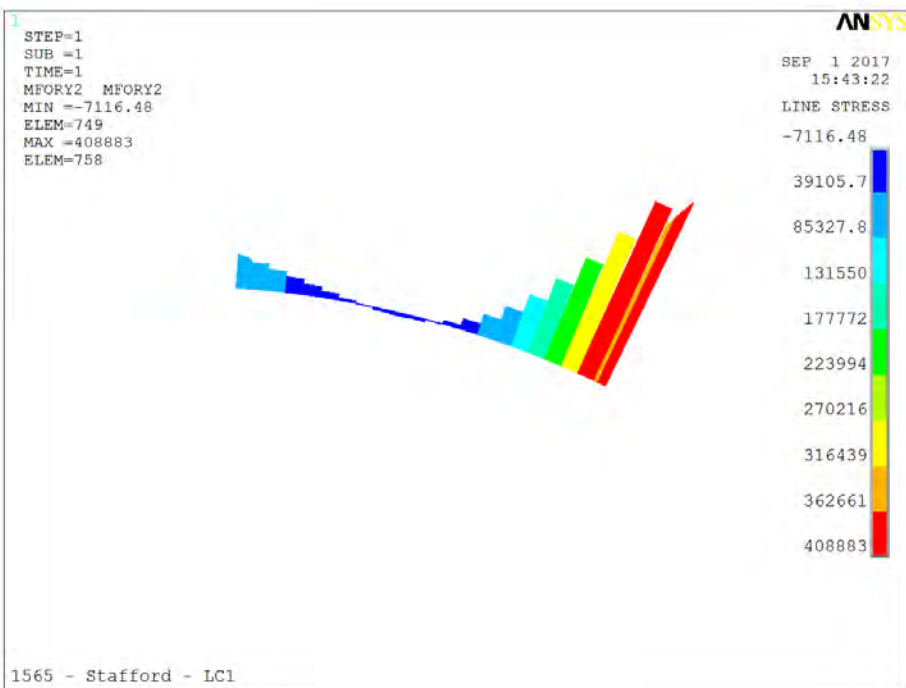

Fig. 1B
- **Fig. 1B - Dome shear force (lbs/360)**